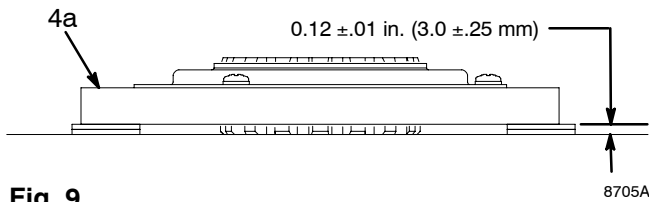

Fig. 9
1. Fig. 9. Install jack shaft assembly (3c). Install retaining ring (3b).
2. Fig. 9. Lay two stacks of two dimes on smooth bench surface.